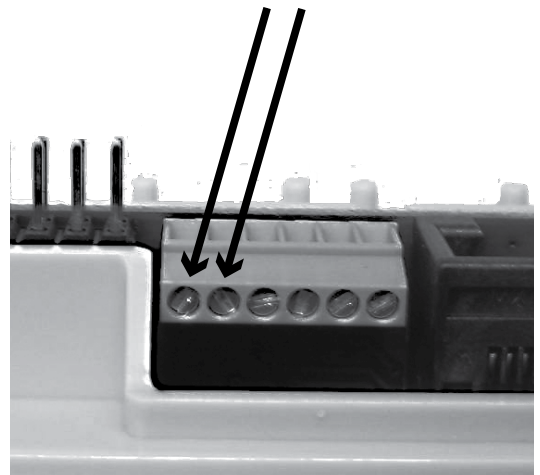

Figure 3-23
2. Run the wire to the Receiving Device. There is a connector at the end of the wires coming from the sensor. For installation onto the PPC-CON, this connector will not be needed. Cut the connector off using a wire cutter, strip the wire ends, and insert both wires into the 1st and 2nd terminals on the sensor connection block and tighten the 1st and 2nd terminal block screws shown in Figure 3-23.